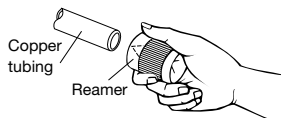
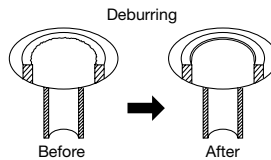

Figure 12
Figure 13
2. Hold each pipe downward when cutting and remove burrs at the end of the copper tube with a tube reamer or file. This process is important and should be done carefully to make a good flare (Figure 12 and Figure 13).
- Remove burrs at the end of the copper tube with a tube reamer (Figure 12).